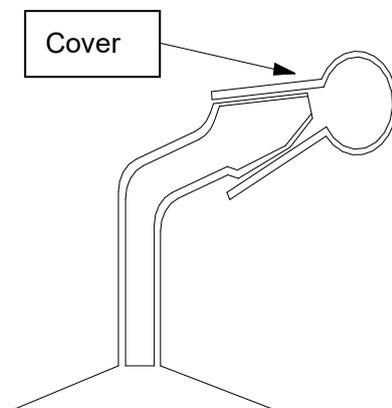
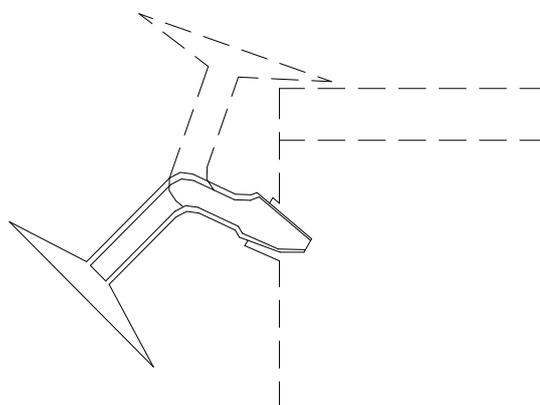

Figure 7-1
Figure 7-2
- (1) Solid injector as shown in Figure 7-1, clean with water and dry well.
- (2) Remove the cover of solid injector, encase the sample, cover immediately and accurately weighing.
- (3) Remove the inlet cocks of electrolytic cell, the injector shown in solid lines in Figure 7-2 into the inlet. The solid injector rotated 180 degrees, as shown in broken lines in Figure 7-2, the sample fall into the reagent, until the measuring completed. When solid sample fall into reagent, it shall not contact with the electrolytic electrode and measuring electrode.